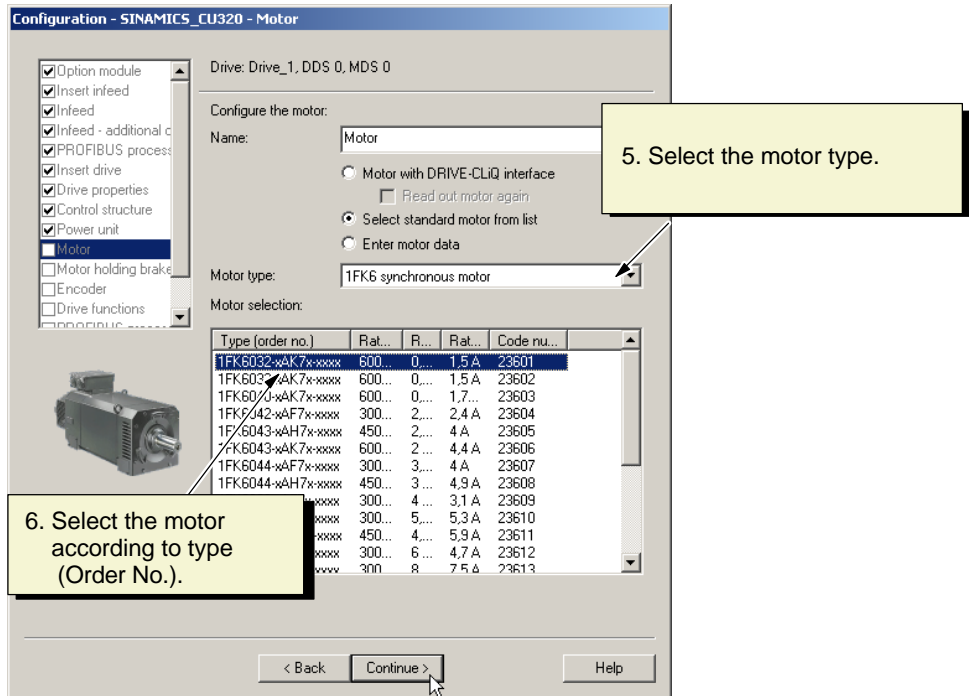

Fig. 5-18 Motor configuration
4. Work through the Wizard by choosing **Continue >** until you reach the point at which you configure the motor (see Fig. 5-18).